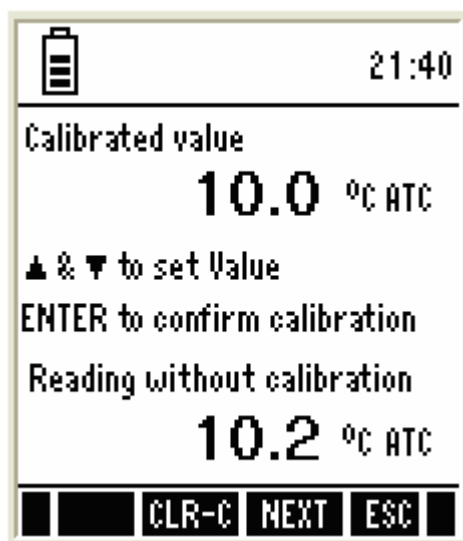

Figure 40: Temperature calibration screen
5. Press **TEMP (F1)** to go to temperature calibration. The temperature calibration screen appears (Figure 40).